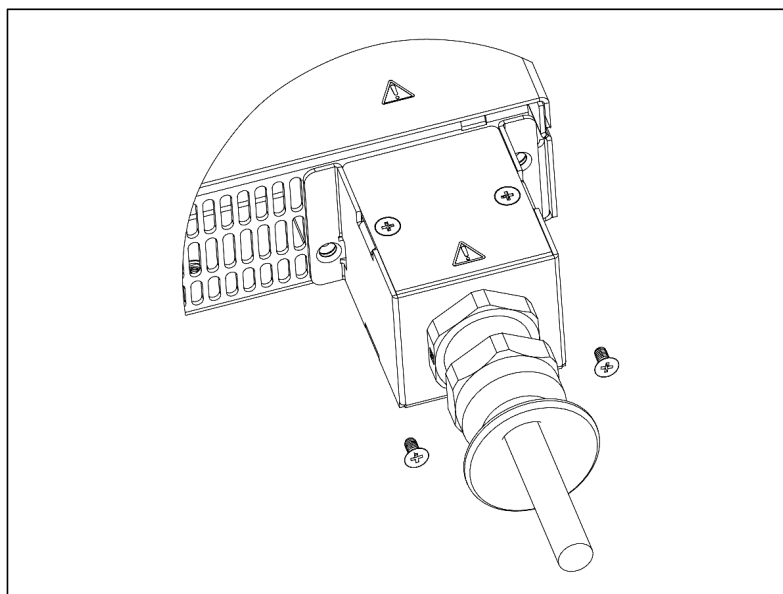

Figure 4-8: Strain Relief Assembled to Power Supply Rear Panel
11. Fix the strain relief assembly, by two M3x8 Flat head screws, supplied in the accessories box, as shown in Figure 4-8. Tightening torque: 4.7-5.7 Lbf-inch. (0.53-0.64Nm).